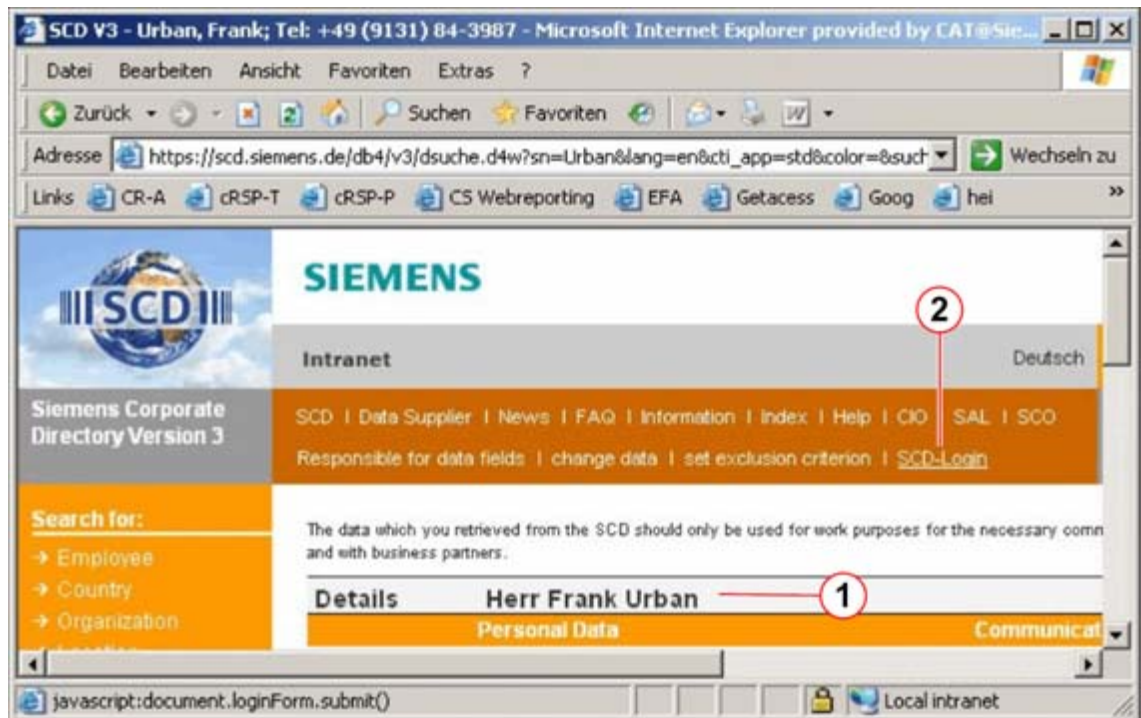

Fig. 19: Set password in SCD - part 1
e.g., Frank Urban (Fig. 19 / p. 39)
2. Click (2/Fig. 19 / p. 39) to start the request process.